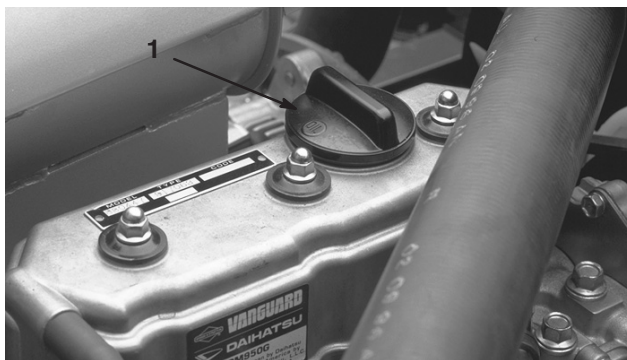

Figure 14
3. If the oil level is below the FULL mark, remove the fill cap (Fig. 14) and add oil until it level reaches the FULL mark on the dipstick. DO NOT OVERFILL.